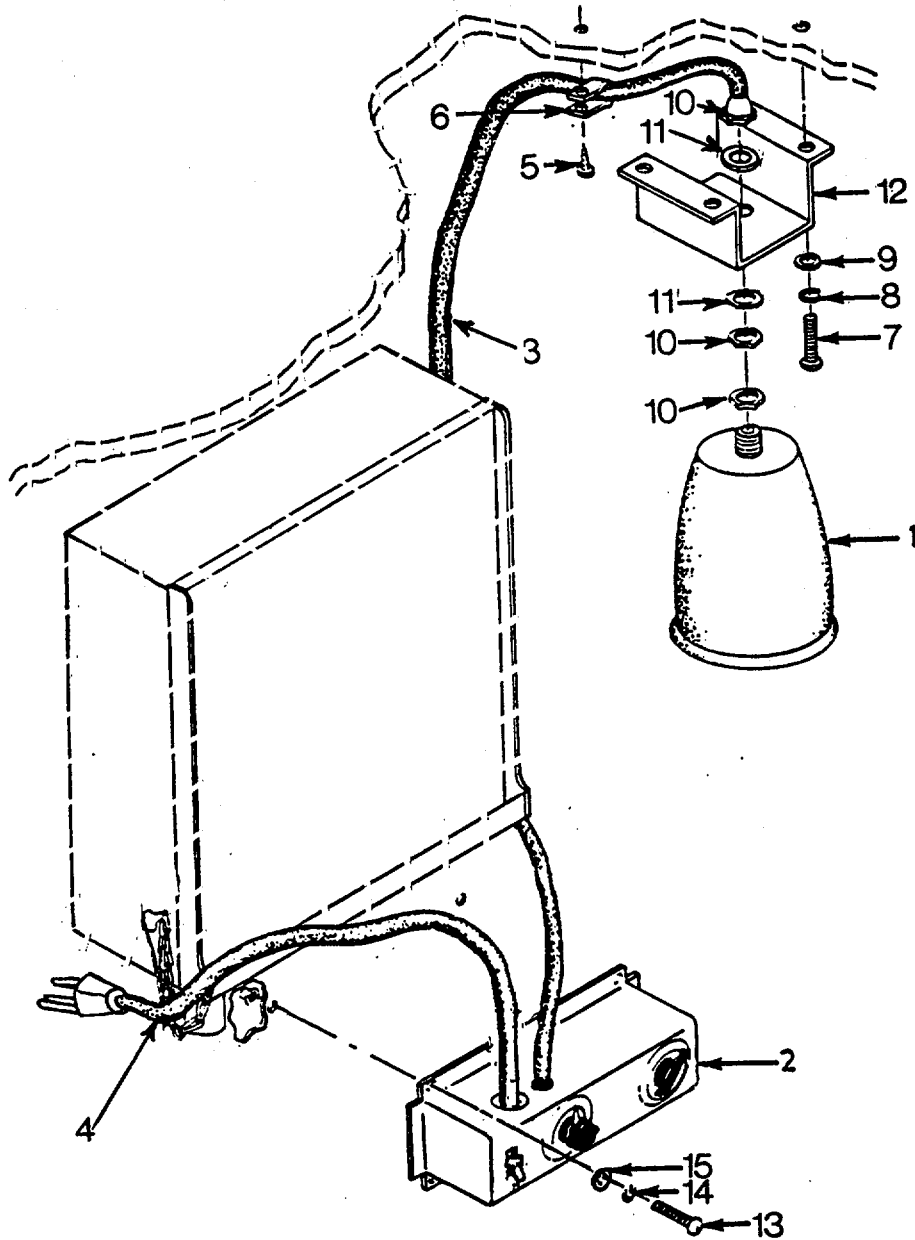

Figure 4-31. Pin-Point Light Assembly
a. Inspect. (See Figure 4-31.)
(1) Check darkroom pin-point light assembly (1) for security of mounting.
(2) Check darkroom timer (2) for security of mounting, broken or missing parts.
(3) Inspect power cord (3) for damage.
(4) Check light for proper operation.
(5) Inspect timer (2) power cord (4) for damage.
(6) Inspect timer control and intensity control for proper operation.
b. Replace. (See Figure 4-31.)
(1) Disconnect power cord (4) from wall receptacle.
(2) Remove screws (5) and cable clamps (6).
b. Replace. - Continued (See Figure 4-31.)
- (3) Remove bolts (7), lockwashers (8), and flat washers (9).
- (4) Remove nuts (10), lockwashers (11), and mounting bracket (12) from pinpoint light (1).
- (5) Remove screws (13), lockwashers (14), and flat washers (15).
- (6) Remove timer (2).
- (7) Install timer (2) and secure with screws (13), lockwashers (14), flat washers (15).
- (8) Install nuts (10), lockwashers (11), and mounting bracket (12) to pin-point light (1).
- (9) Install screws (7), lockwasher (8), and flat washer (9).
- (10) Install screws (5) and cable clamps (6).
- (11) Connect power cord (4) to wall receptacle.
- c. Repair. (See Figure 4-31.)